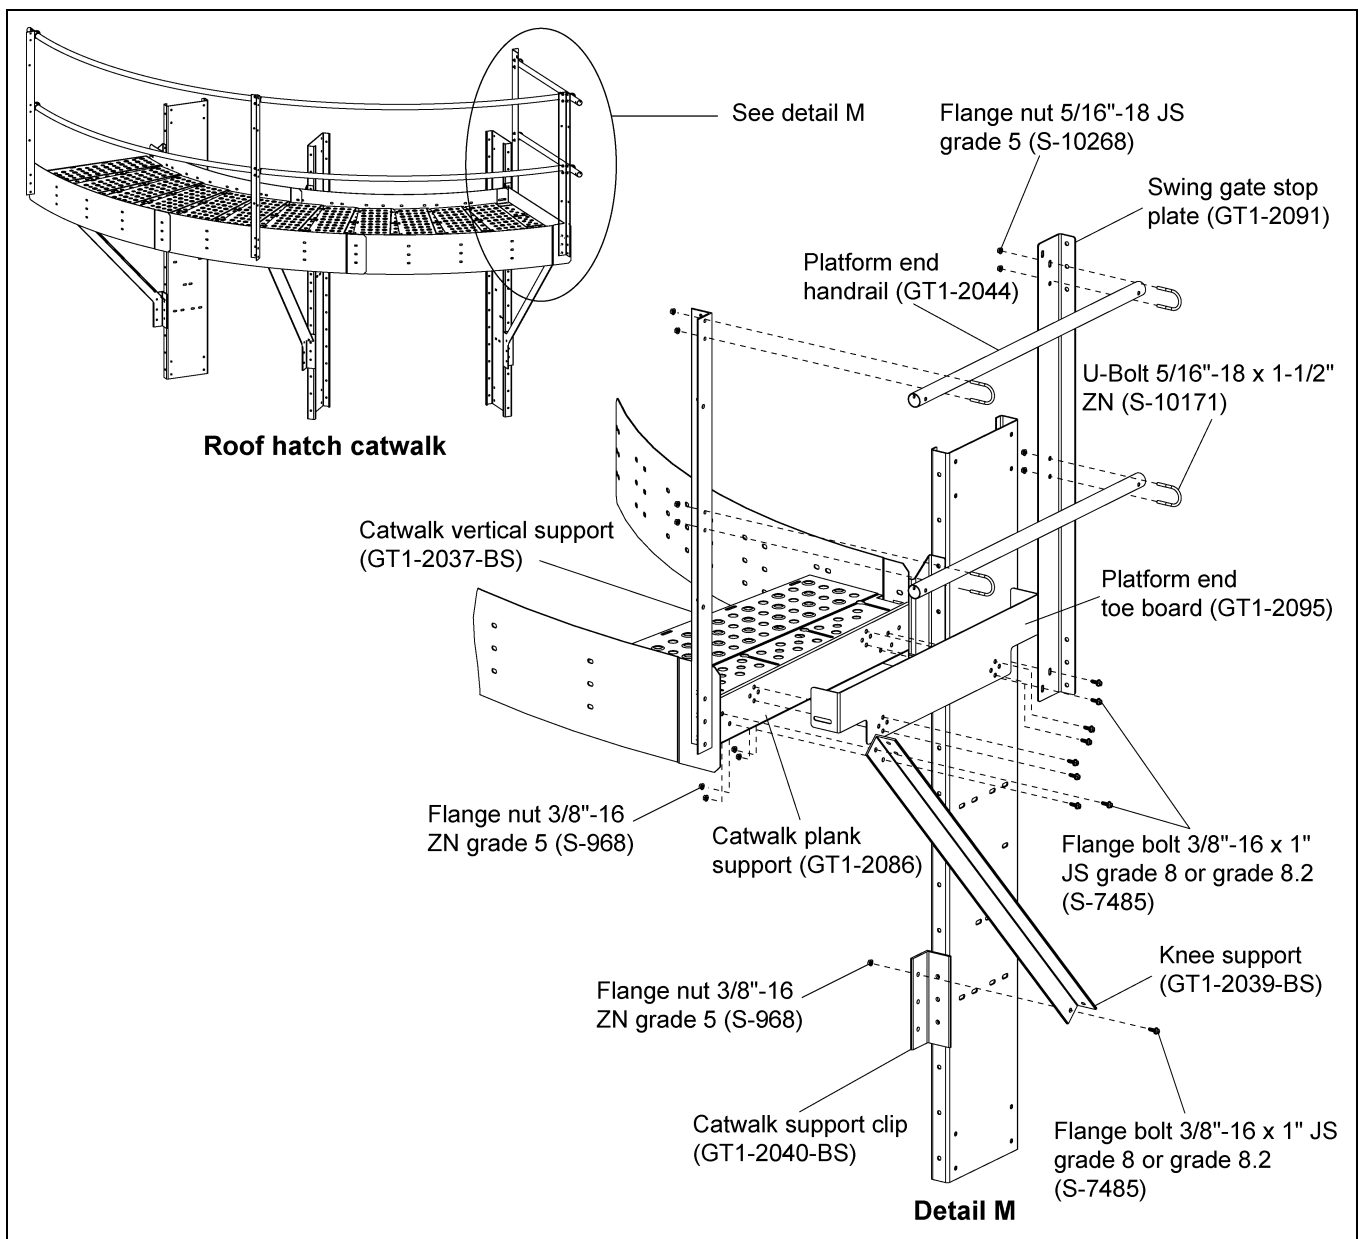

Figure 6W Roof Hatch Platform End Handrail (GT1-2044) Installation
4. Install the platform end toe board (GT1-2095) and knee support (GT1-2039-BS) to the catwalk plank support (GT1-2086) using 3/8"-16 x 1" JS grade 8 or grade 8.2 bolts (S-7485) and 3/8"-16 ZN grade 5 nuts (S-968). (See Figure 6W.)
7. Attach the bottom end of the knee support (GT1-2039-BS) to the catwalk support clip (GT1-2040-BS) using 3/8"-16 x 1" JS grade 8 or grade 8.2 bolts (S-7485) and 3/8"-16 ZN grade 5 nuts (S-968). (See Figure 6W.)